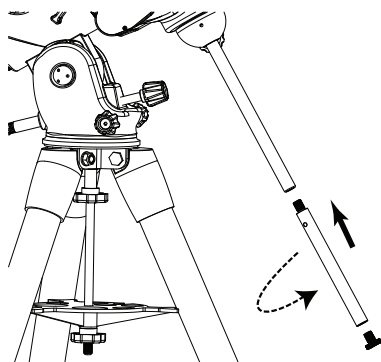

Fig. 1.4c
4. The EQ6-R mount comes with a 290mm counterweight rod extension, which can be installed at this point if necessary. Ensure the extension is tightly secured before installing counterweights. (Fig. 1.4c)